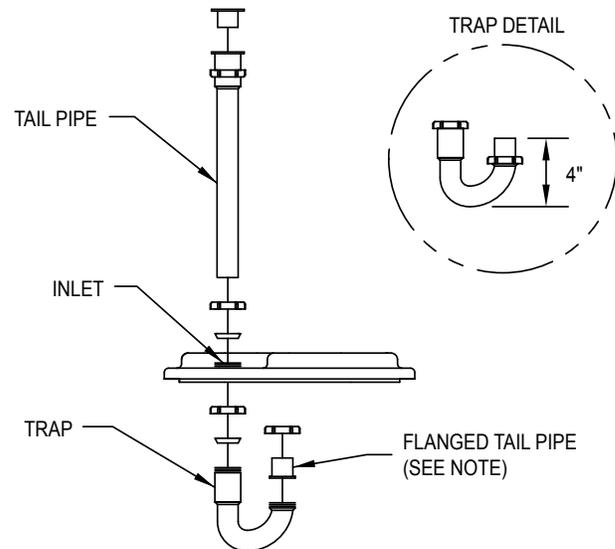

Figure 4.2
- 4.2) Install the sink drain components to the lid as shown in Figure 4.2.